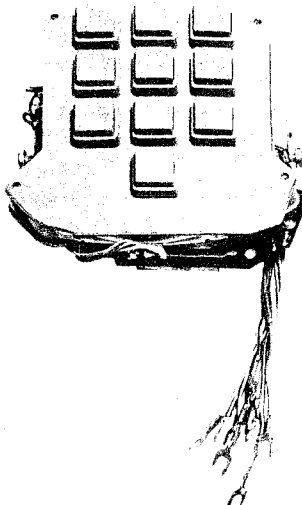

Fig. 1 — 25-Type Dial, Front View
2.01 The 25-type TOUCH-TONE dial is a 10-button multifrequency dialing device. It is equipped with pushbuttons having numbers and letters (Fig. 1). It has a transistorized oscillator, printed circuit board, frequency contacts, and a common switch.